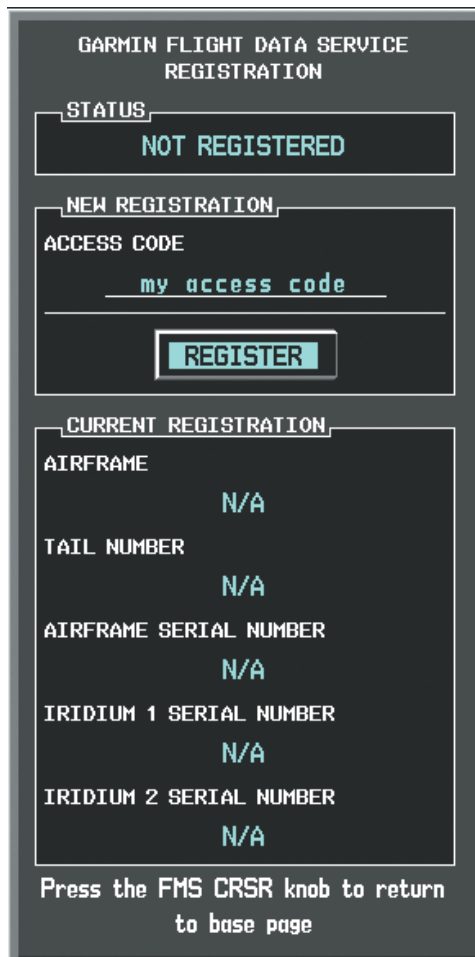

Figure 8-76 Enter Access Code
- 11) Press the **ENT** Key. The Garmin Flight Data Service Registration window is now displayed as shown in Figure 8-76.
- 13) Press the **ENT** Key. REGISTER will now be highlighted as in Figure 8-76.